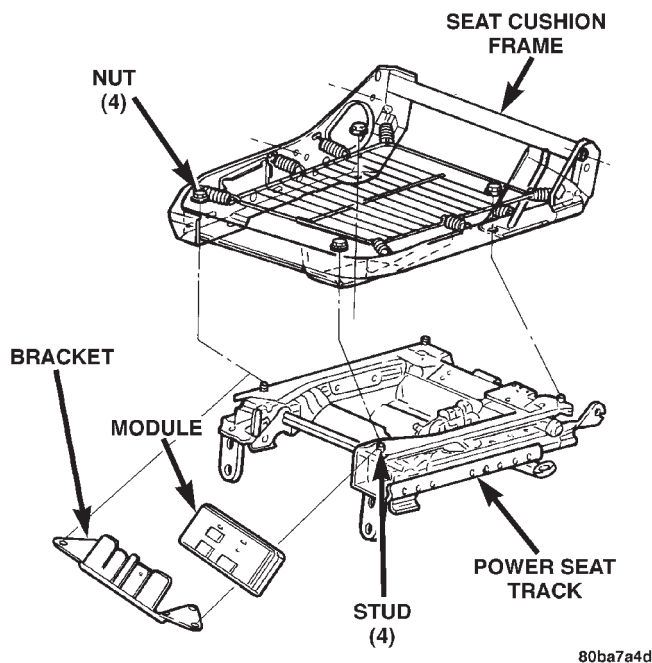

Fig. 3 Heated Seat Module Remove/Install
(1) Disconnect and isolate the battery negative cable.
(2) Remove the driver side front bucket seat from the power seat track unit. Refer to **Bucket Seat Track Adjuster** in the Removal and Installation section of Group 23 - Body for the procedures.
(3) Lift the heated seat module and its mounting bracket off of the two forward studs on the upper mounting rails of the power seat track and move the unit away from the seat far enough to access the power seat wire harness connectors (Fig. 3).